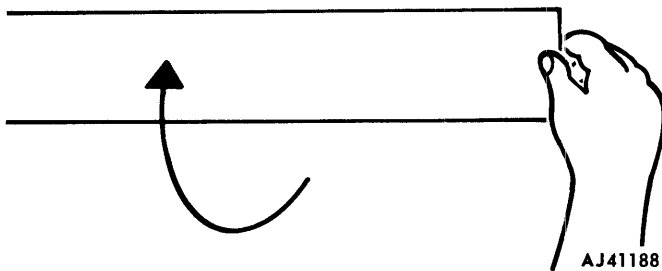

Fig. 20-16 Lifting Decal
(4) Lift decal using masking tape as hinges (fig. 20-16).